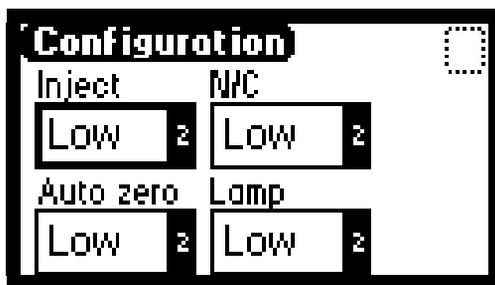

Figure 3-13 Second Configuration Screen
1. Press **2** on the Configuration Menu screen. The second Configuration screen appears (Figure 3-13).